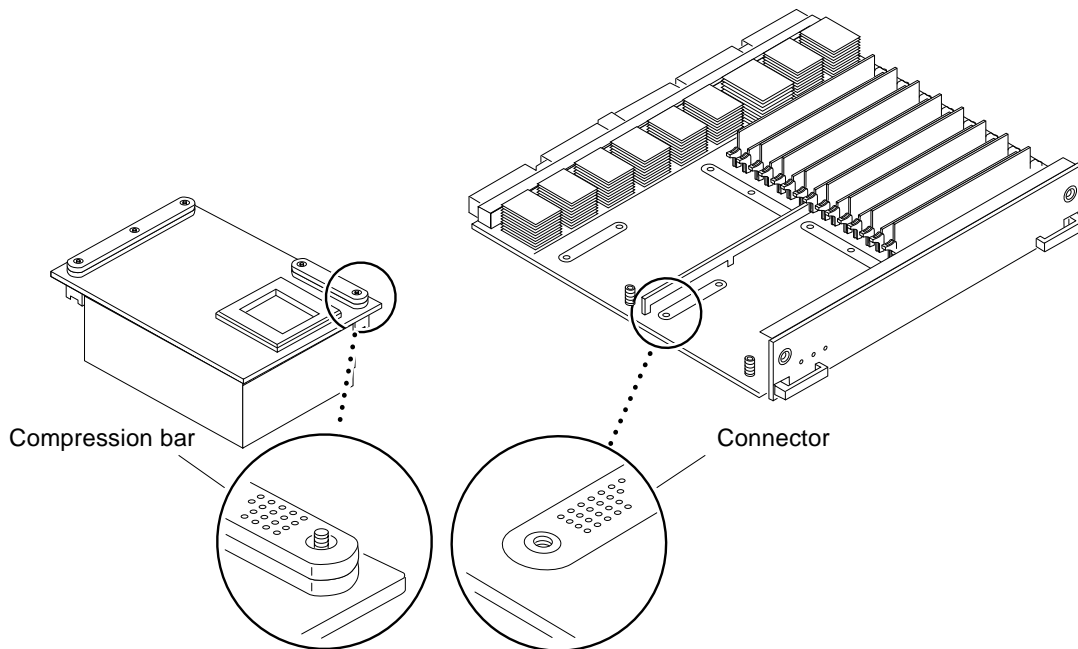
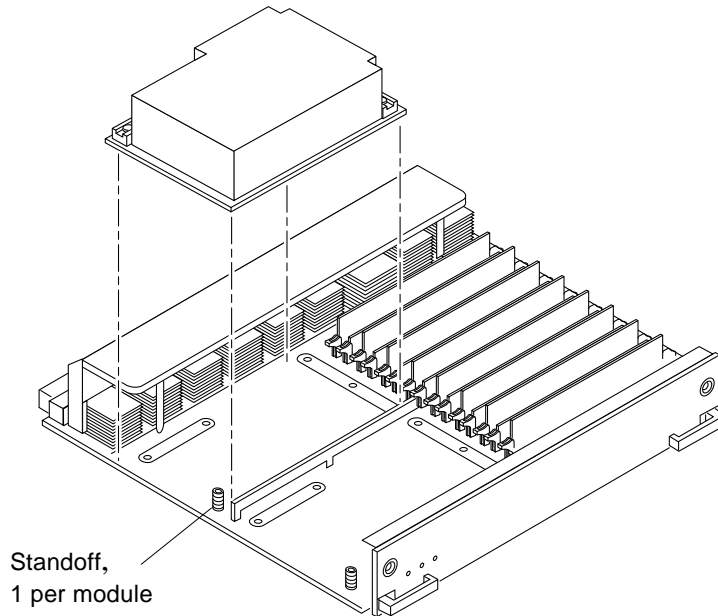

FIGURE 3-9 Ultra SPARC Module Connector Detail
FIGURE 3-10 UltraSPARC II Module Removal and Replacement
Each module is locked to the main board with a single standoff and is connected to the main board by two connectors. The pins within the connectors are compressed to the corresponding board mating surfaces by a metal compression bar which, when secured with screws, compresses the module connector pins to the board mating surfaces (FIGURE 3-9).
Use pressure applied with fingers to assist in removing module from standoff (FIGURE 3-10).
4. **Holding the module by the edges, align the module over the two board receptacles (use the single standoff and the alignment pins on the module compression connector as a guide). See FIGURE 3-9 and FIGURE 3-10.**